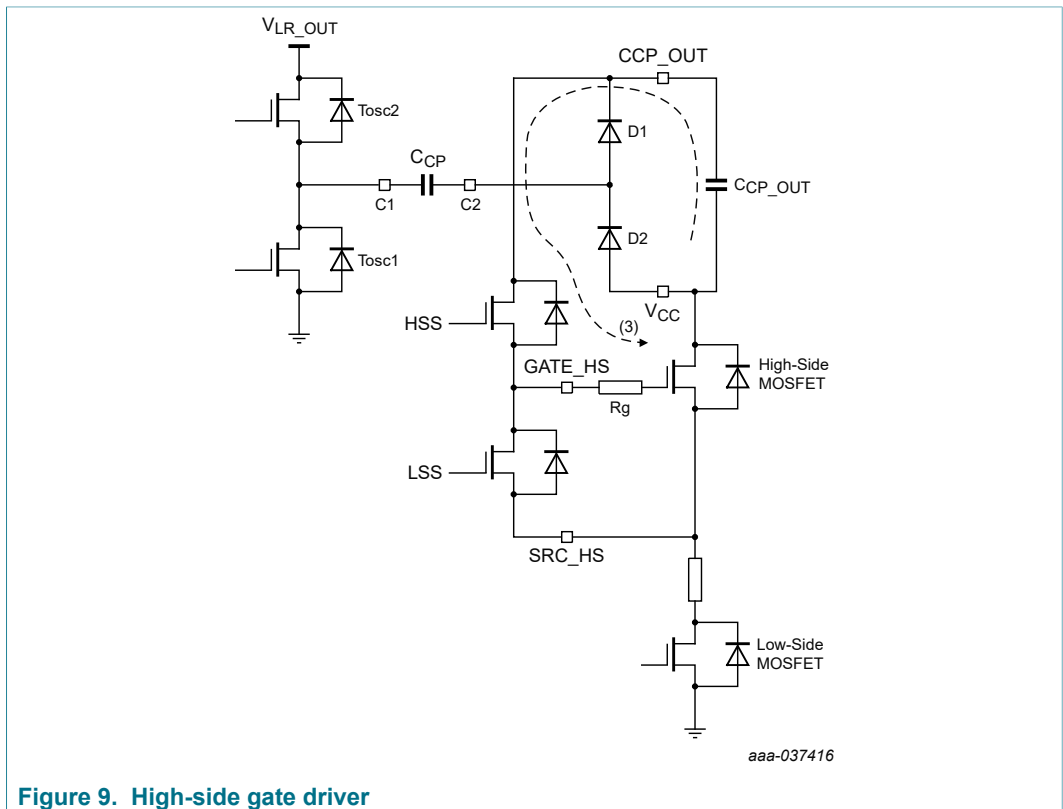

Figure 9. High-side gate driver
Figure 9 represents a simplified circuitry of the high-side gate driver. Transistors  $Tosc1$  and  $Tosc2$  are the oscillator-switching MOSFETs. When  $Tosc1$  is on, the oscillator is at low level. When  $Tosc2$  is on, the oscillator is at high level. The capacitor  $C_{CP\_OUT}$  provides peak current to the high-side MOSFET through HSS during turn-on (3).